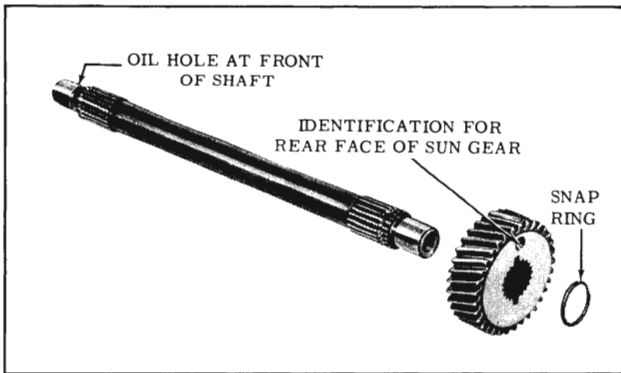

Fig. 3-243 Rear Sun Gear
43. Remove the rear sun gear from the main shaft by removing the snap ring. (Fig. 3-243)